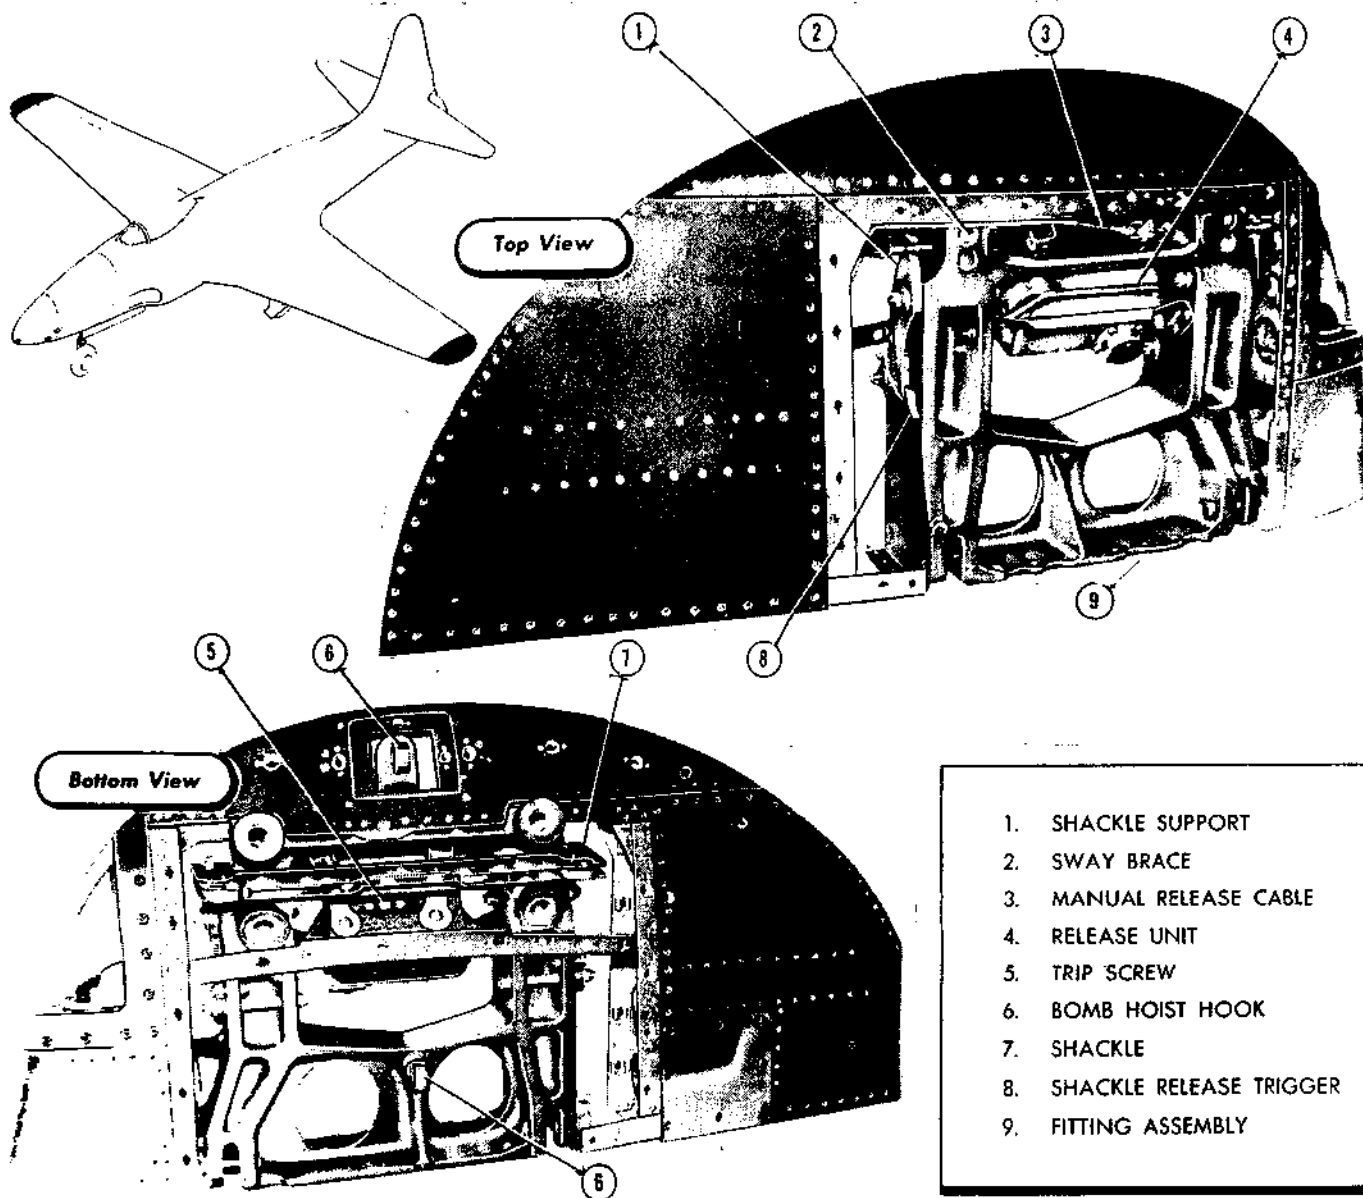

Figure 232 — Bomb and Fuel Tank Carrying Equipment, Early Airplanes
(1) B-10 BOMB SHACKLE. (See figure 232.)
(See figure 232.)